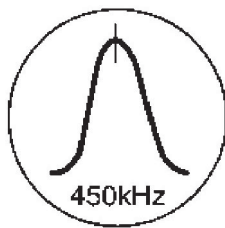

Fig.6
4. adjust Z102 so that the output frequency is maximized in Fig. 6.